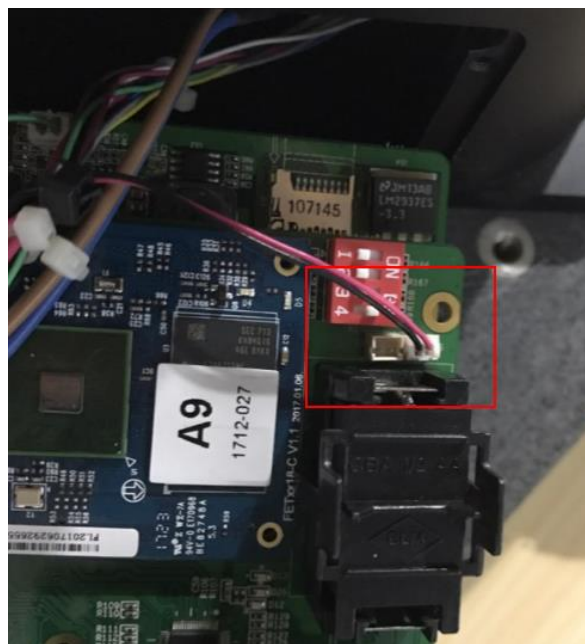

Figure 7.10 Connection between the battery and robotic arm
- If a fuse is not installed on the battery, please remove the cover of the battery holder to take out the original battery and unplug the battery connector of bus cable connecting to the battery holder, as shown in Figure 7.10.